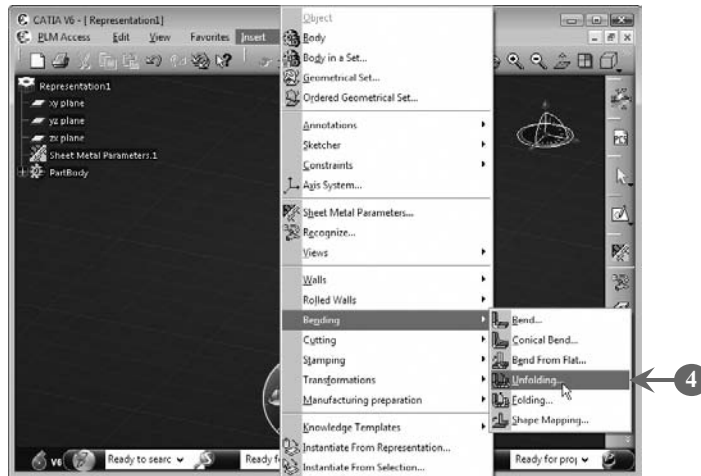

FIGURE 6.59
4. Select **Insert > Bending > Unfolding** from the menu bar to unfold a bend, as shown in **Figure 6.59**: